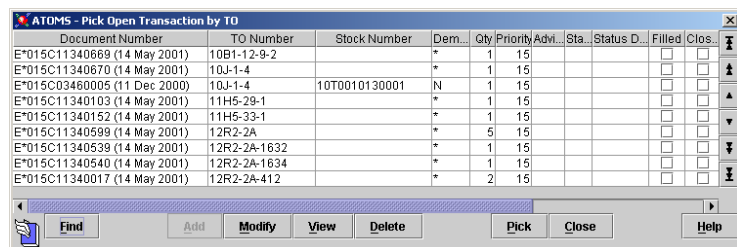

Figure 5-21. Two Open Transactions for TO 10J-1-4
- 3) Click the **Find** button. Type in the TO Number (**10J-1-4**) received. The list scrolls so that the TO is displayed, usually in line 2—and in this case, also in line 3 (Figure 5-21).